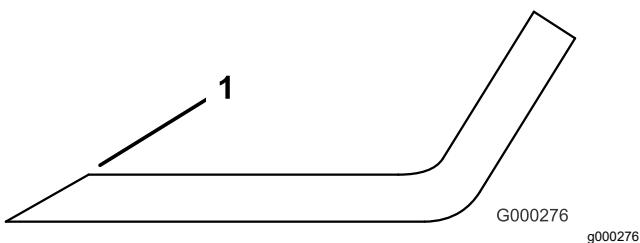

Figure 93
3. Examine the cutting edges of all of the blades and sharpen the cutting edges if they are dull or nicked (Figure 93).
Note: Sharpen only the top of the cutting edge and maintain the original cutting angle to ensure sharpness (Figure 93). The blade remains balanced if you remove the same amount of metal from both cutting edges.